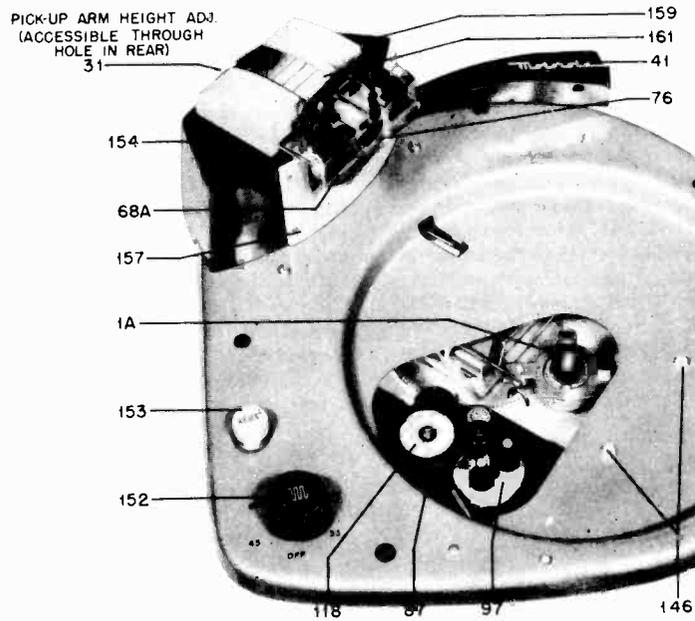

FIGURE 3. TOP VIEW OF RECORD CHANGER WITH TURNTABLE REMOVED
Refer to Figures 3, 4, 5, 6, 7 and 9 for the location of the various parts described in this section.
2. The height adjustment screw (31) is accessible through a hole in the rear of the record support housing (154) (see Figure 3).
3. Turn the height adjustment screw (31) clockwise to raise the arm, or counterclockwise to lower the arm, as required.